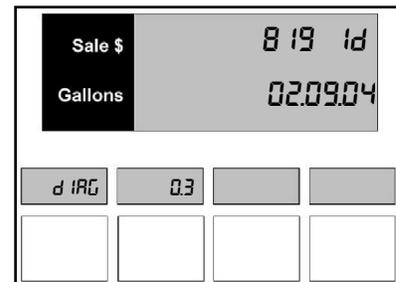

Figure D.0.3 – 819 Software ID
2. The current level of the 819 software revision will be displayed as shown in *Figure D.0.3*. **Note:** This will change from software version to software version.